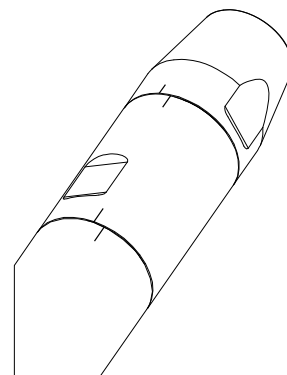

Figure 12-25 Scribe Marks Offset after tightening.
6. Tighten until the set of scribe marks are offset, as shown in Figure 12-25. Refer to Torque Table for offset distance.
1. Continue to tighten until the scribe marks have offset the distance indicated in the following table. Refer to Figure 12-25.